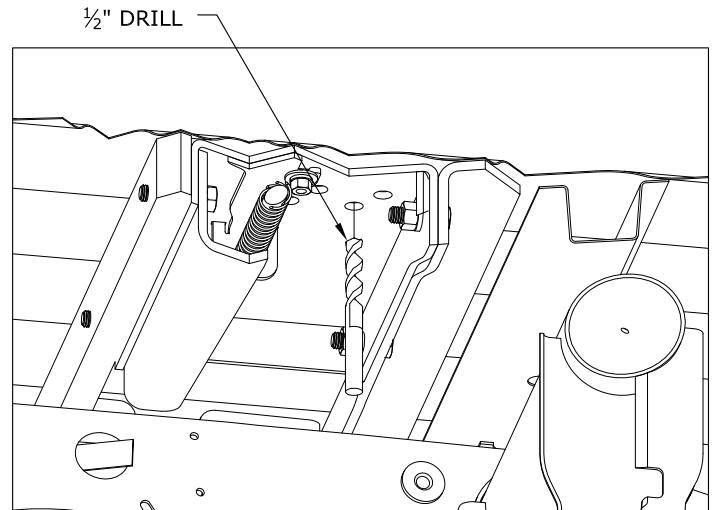

FIGURE G2: Cut away view of bed and center section
1. **Drill the holes.** From under the bed use a drill and a $\frac{1}{2}$ " drill bit to drill through the bed using the four holes that match up with a low rib in the truck as a guide. Remove any burrs created during the drilling process, see figure G2.